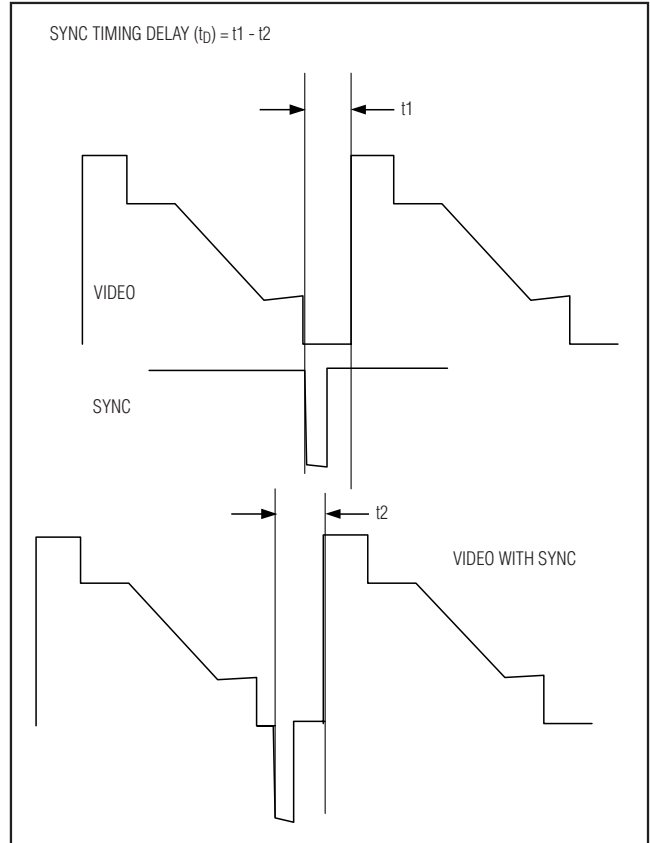

Figure 1. Sync Timing Delay ( $t_D = t_1 - t_2$ )
**Note 5:** The sync timing error is measured as follows: The input signals are measured from the falling edge of H sync/V sync to the start of active video, called  $t_1$ . The output signal is then measured from the falling edge of H sync/V sync to the start of active video, called  $t_2$ . All measurements are at the 50% points as shown in Figure 1.